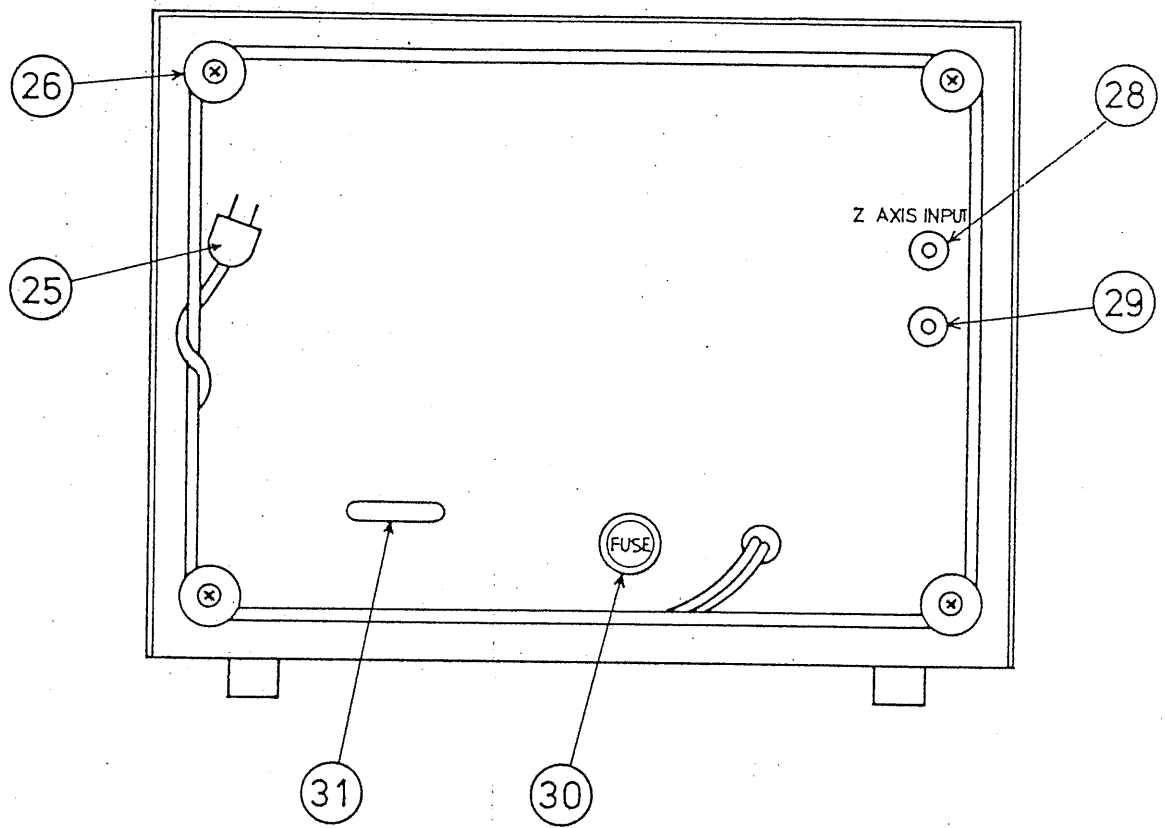

Fig. 2
3.2 Explanation of Rear Panel (See Fig. 2)